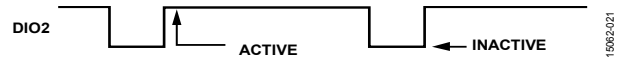

Figure 21. Data Ready, when FNCTIO_CTRL, Bits[3:0] = 1101 (Default)
The factory default configuration provides users with a data ready (DR) signal on the DIO2 pin, which pulses low when the output data registers are updating (see Figure 21). In this configuration, connect DIO2 to an interrupt service pin on the embedded processor, which triggers data collection, when this signal pulses high. Register FNCTIO_CTRL, Bits[3:0] (see Table 144) provide some user configuration options for this function.